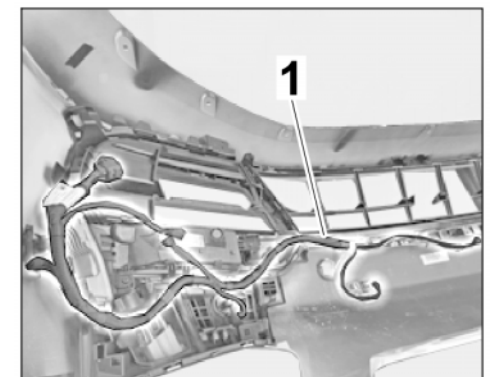

Figure 26
3.4.3 Remove wire harness (on the right-hand side ⇒ *Figure 26*) from (standard) front apron and install it in the new front apron.